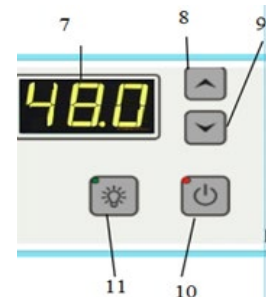

Figure 10
- Under the normal operating status, click Key (8) and (9) until the number on Display (7) flashes; click Key (8) and (9) again to adjust the temperature setting of the floatation heater in the range of 0-70 °C;
- The setting will be automatically saved and the unit returns the normal operating status after 10 seconds or by clicking  Key (10) (Figure 10).